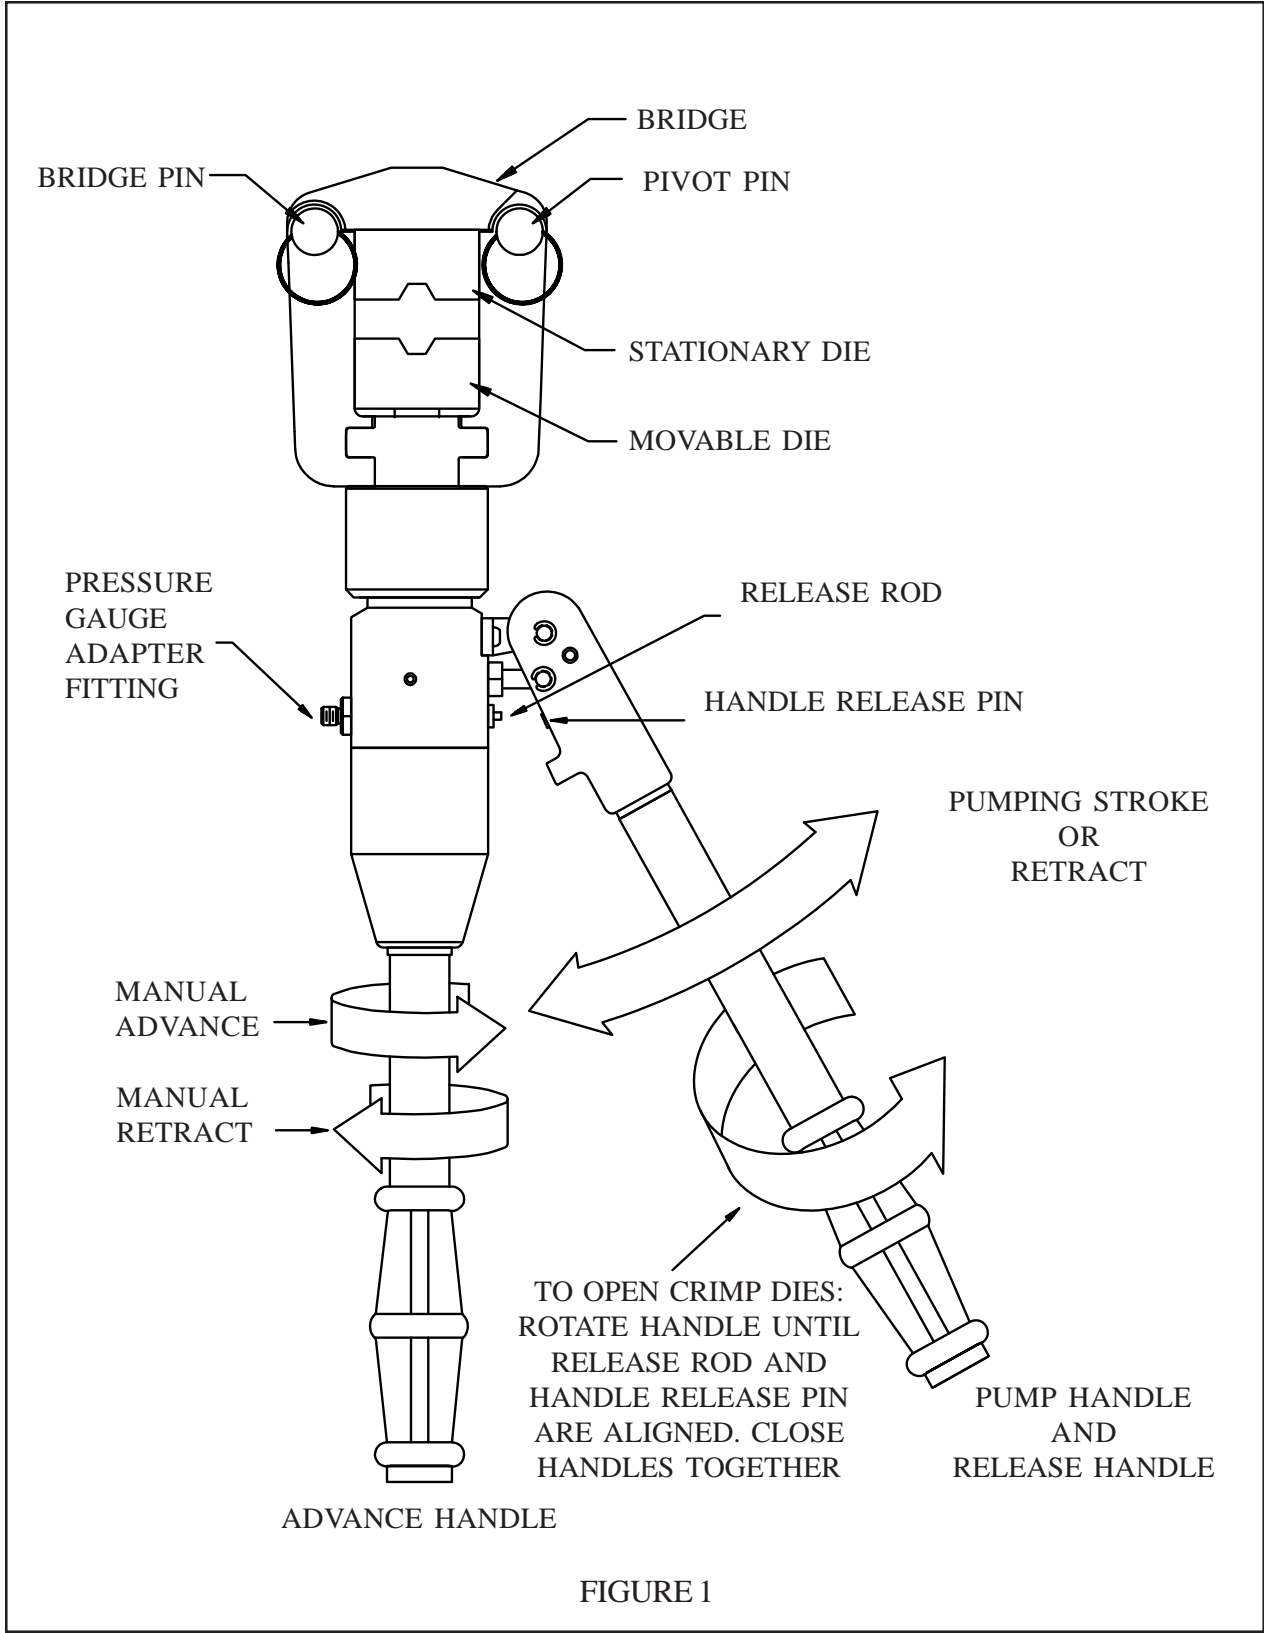
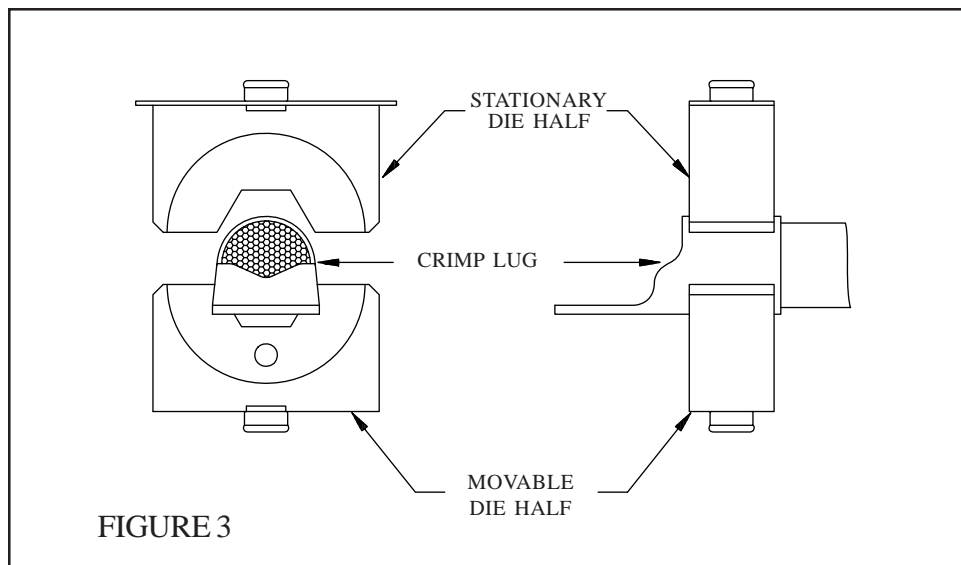

FIGURE 1
FIGURE 3
1. Pull both pivot and bridge pins to remove bridge as shown in Figure 1.
1. Place a lug in the movable die making sure the lug is positioned as shown in Figure 3. Rotate the advance handle clockwise until the die loosely clamps the lug (see Figure 1).
4. Release the movable die from the compressed lug by partially raising the pump handle. Then rotate the handle fully clockwise and push inward (see Figure 1). The movable die will open sufficiently to allow the lug to be removed.
2. Actuate the pump release handle and confirm that the die is in the fully open position (see Figure 1).